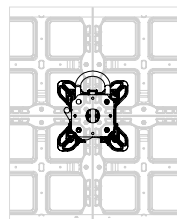

Fig. D1.02c
- above 4 DP panels (**10**), for connecting corners. (Fig. D1.02c)